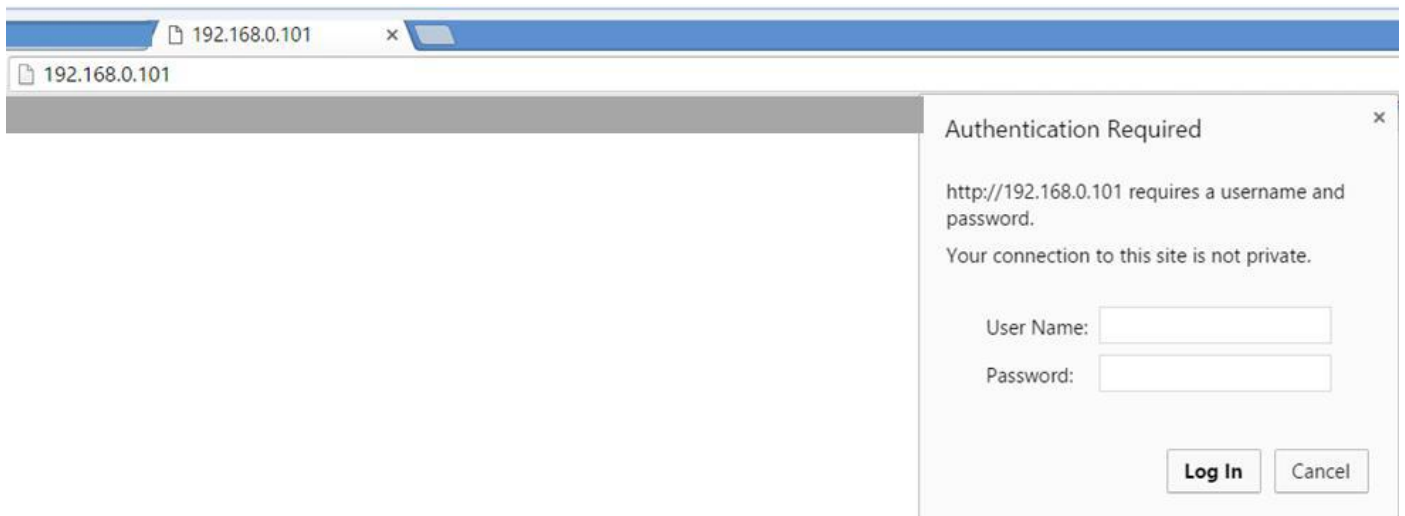

Figure 19 Rear projector IP address
- Type "http://192.168.0.101" as below Figure 19.